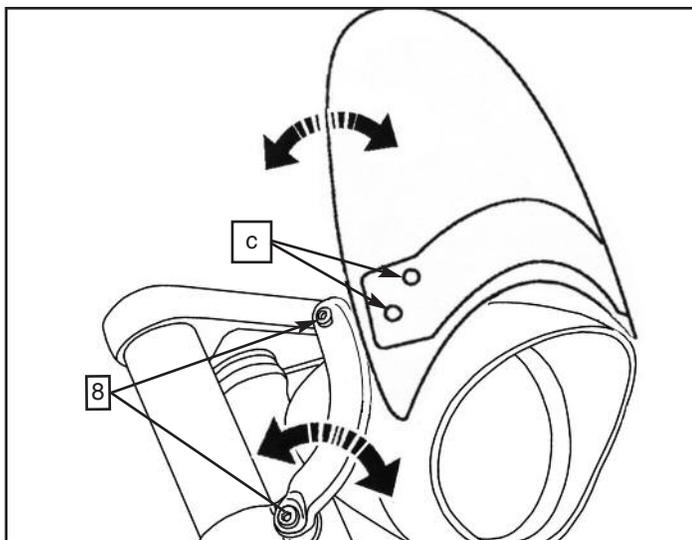

Figure 5
11. Adjust the Windshield to the desired position and securely tighten the 4 Screws (8). **(6mm Hex Wrench) Figure 5**
12. Securely tighten the 4 Screws in the Windshield Plate Bracket (c). **(4mm Hex Wrench and 10mm Socket) Figure 5**